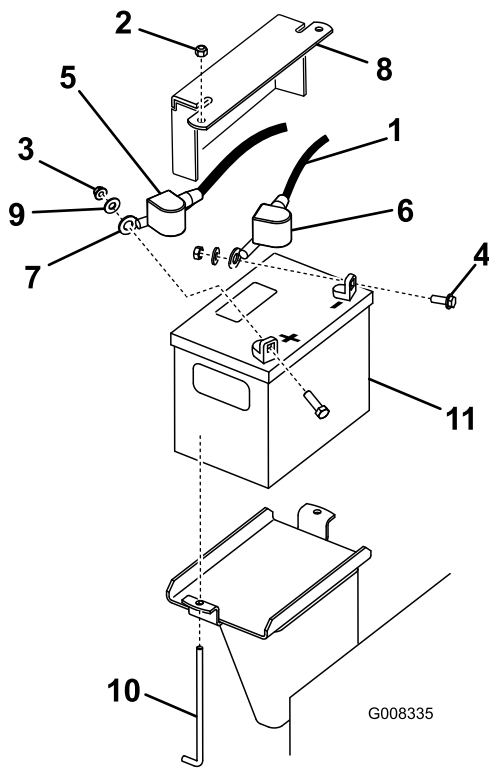

Figure 37
3. Lift the black rubber cover on the negative cable. Disconnect the negative battery cable from the negative (-) battery terminal (Figure 37).
- Slide the red terminal boot off the positive (red) battery terminal, then remove the positive (red) battery cable (Figure 37).
- Remove the hold down plate, J-bolts, and locknuts securing the battery (Figure 37) and remove the battery.
1. Using the fasteners previously removed, install the positive (red) battery cable to the positive (+) battery terminal (Figure 37).
3. Using the fasteners previously removed, install the negative (black) battery cable to the negative (-) battery terminal (Figure 37).
4. Secure the battery using the bar and wing nuts (Figure 37).